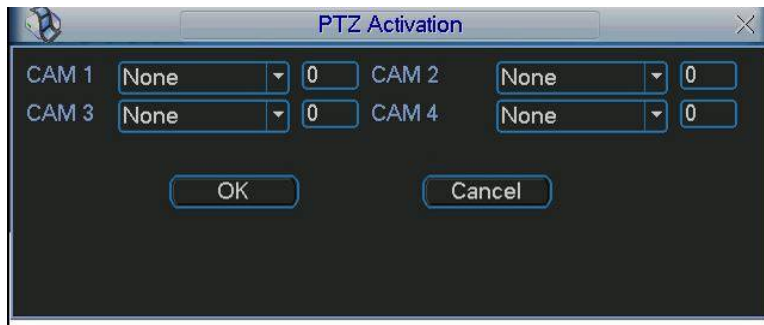

Figure 4-15
- PTZ activation: Here you can set PTZ movement when alarm occurs. Such as go to preset, tour & pattern when there is an alarm. Click “select” button, you can see an interface is shown as in Figure 4-15.